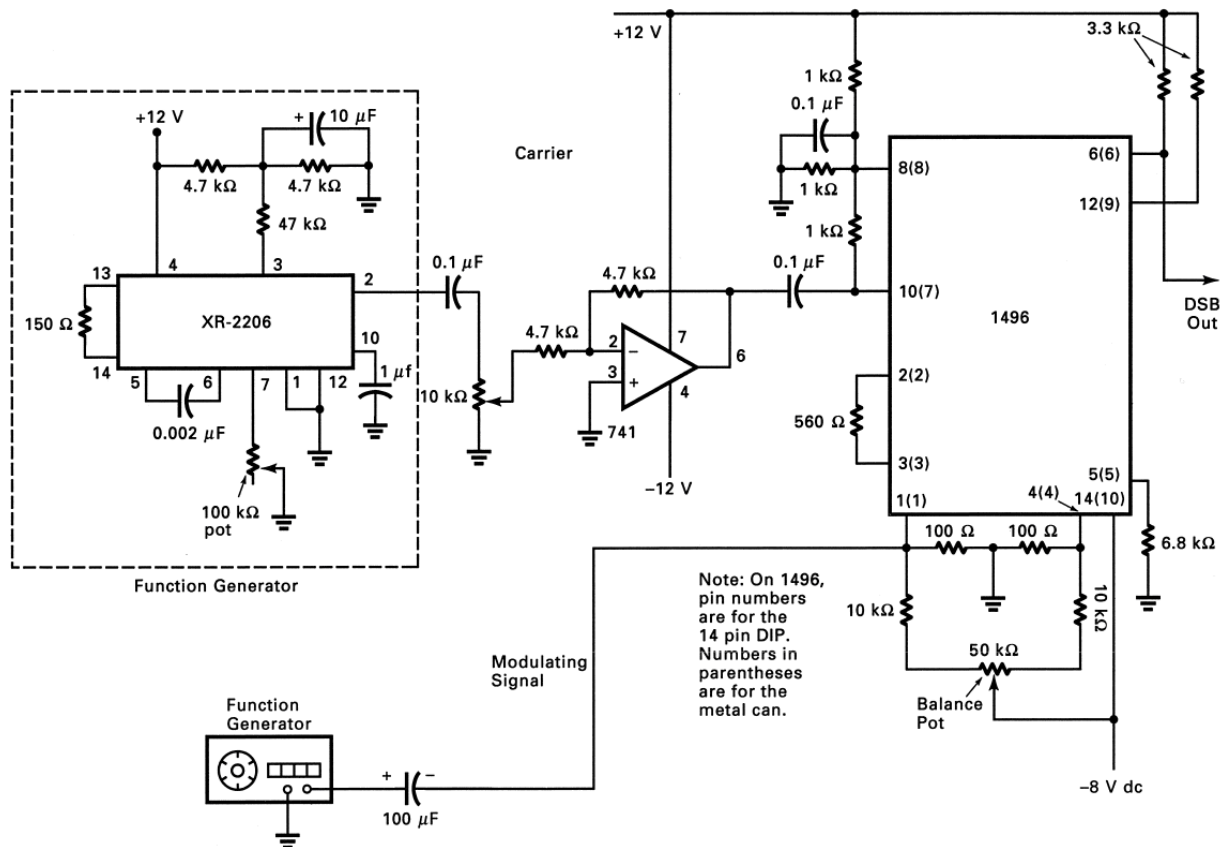

Fig. 4-13 Circuit for demonstrating SSB.
1. Construct the circuit shown in Fig. 4-13. The 2206 integrated circuit function generator will serve as the carrier source. You will use a 741 op amp inverter to buffer the output signal from the function generator. The output of the 741 op amp becomes the carrier input to the 1496. The modulating signal is supplied by an external function generator. Be particularly careful in constructing this circuit, because there are many components and wiring mistakes are easy to make. Once you have built the circuit, double-check your wiring before applying power.